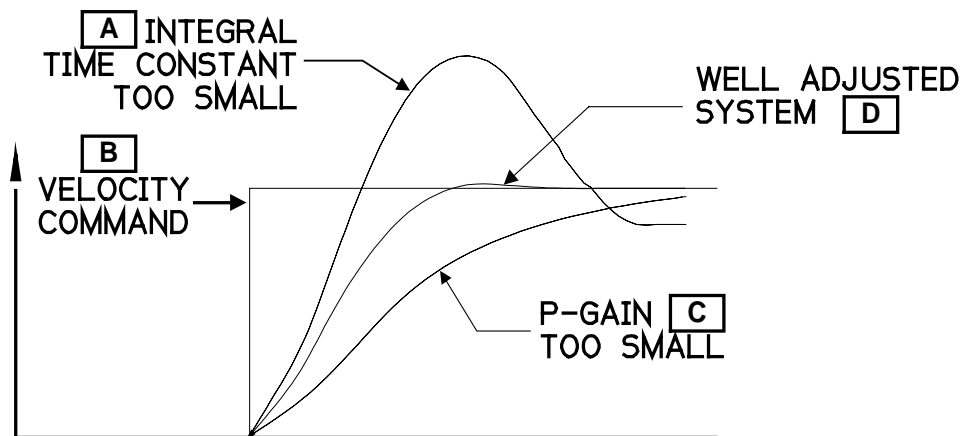

FIGURE 4.55 Standard Velocity Mode Tuning Waveforms
- Use the **PU** command to improve the slope of the step response. FIGURE 4.55 illustrates the velocity wave form for a properly tuned loop.